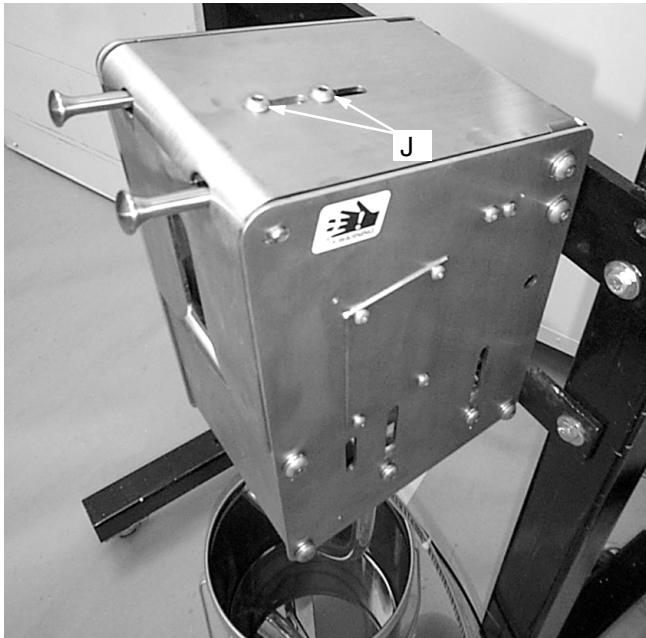

Fig. 13
2. Loosen the screws (J) on top of the door, then fully close the door. See Fig. 13.